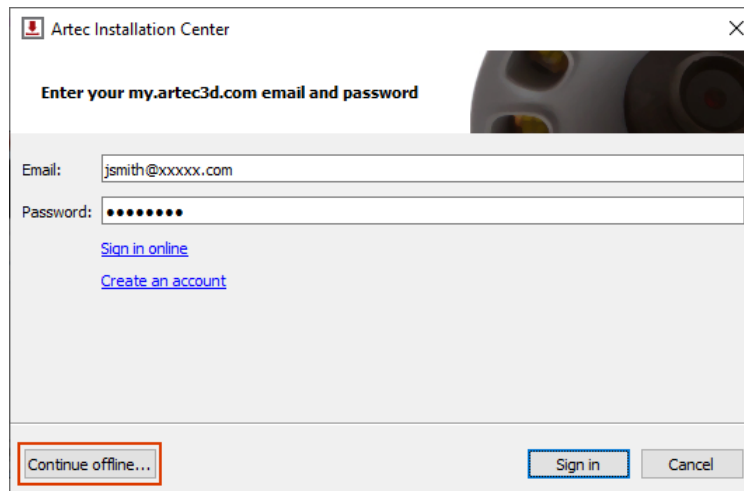

Figure 40: Artec Installation Center authentication dialog
2. During installation the login/password dialog will be displayed as Figure 40 shows. Click *Continue offline...*